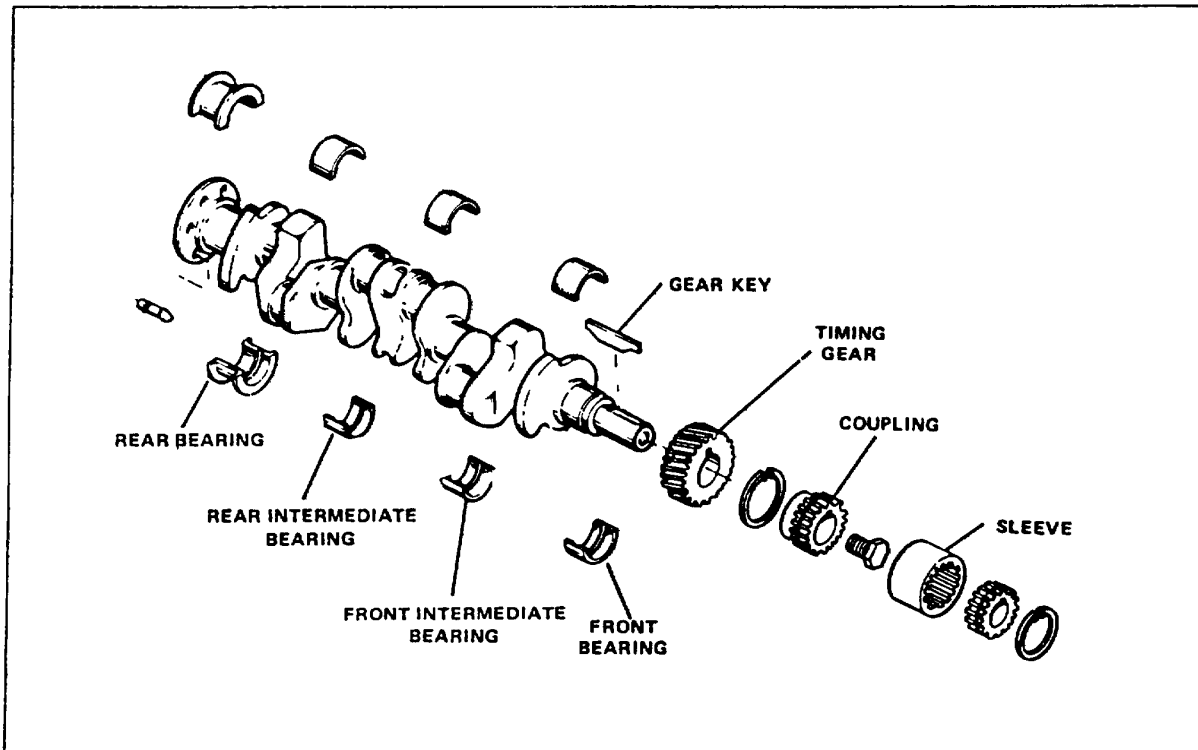

Figure 24. Crankshaft Assembly
29. Carefully lift the crankshaft (Figure 24) from the bearing mountings. Avoid nicking or bumping the bearing surfaces while handling.